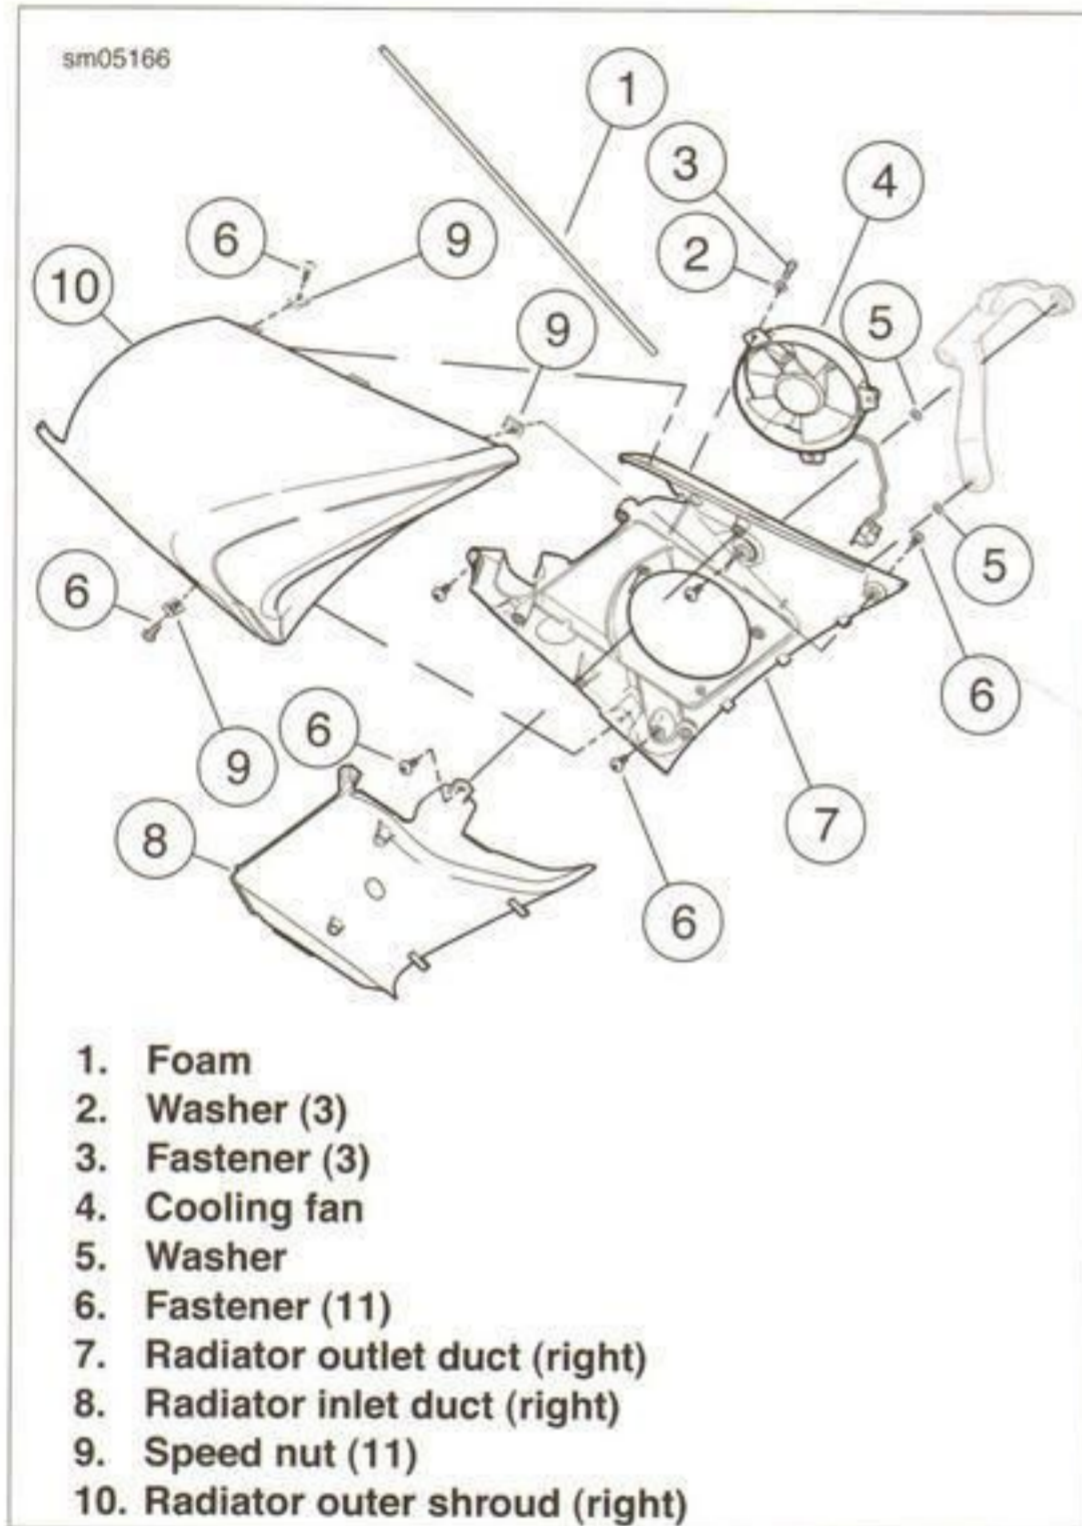

Figure 7-128. Right Side Cooling Fan Components
3. See Figure 7-128. Remove six fasteners (6) from right radiator shroud (10) and remove shroud from motorcycle. Leave speed nuts in place on outer shroud.